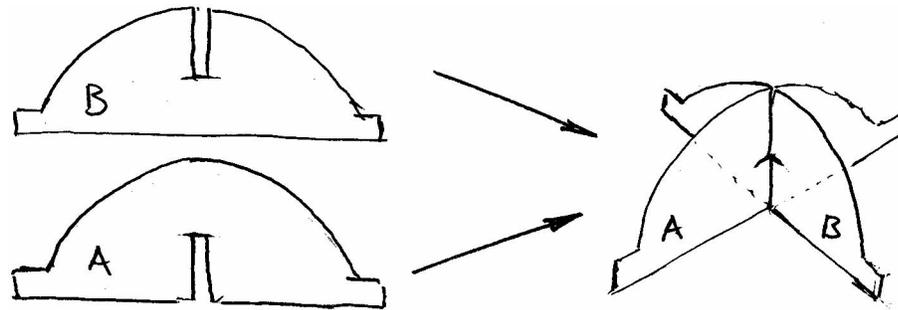

Figure 3: Both parts of the plate-wood model for the cooker assembly
The positions where to place the rings are marked by little black triangles. A gap with the same width as the thickness of the plate is cut out along the parabolas axis from the bottom to the mid at one piece and from the top to the middle at the second piece so that the two pieces fit together in a stable position as shown above without glue (see construction manual section 2.2.2, Figure 3). The model can be taken apart again for storage without effort.
- Cut out a strip having the width of the plate-wood along the x-axis from outside in upto the mark for the focal point, for the one piece beginning from the straight base line and for the other piece from the parabolic side to the focal point. Now the two pieces are different as shown on figure 3.